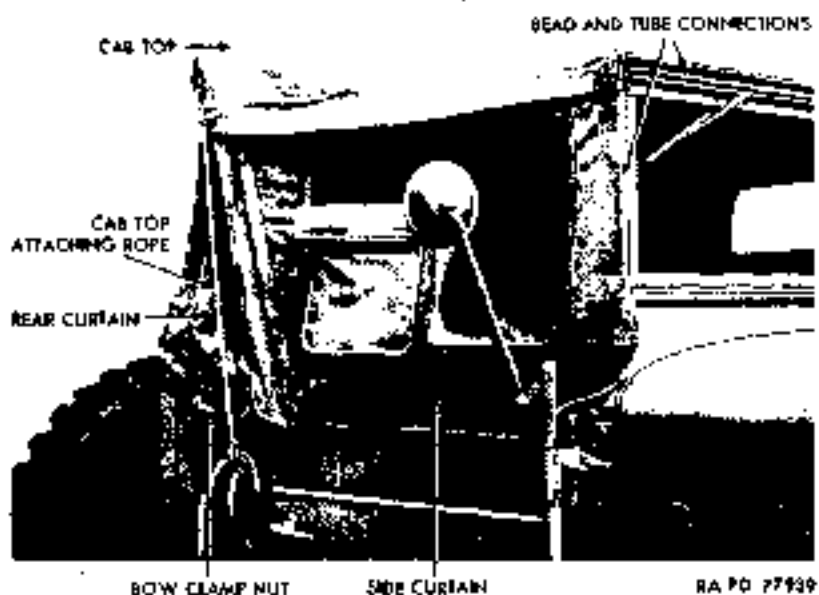

Figure 91 — Exterior of Installed Cab Top
a. **Description** (figs. 91 and 92). The cab top includes: a fabric top attached between windshield frame and top bow, fabric rear curtain attached between top bow and rear top of cab, and a fabric side curtain with window attached between windshield frame and rear curtain on each side. The top and sides are attached to windshield frame through a bead and tube connections. Ropes secure top and rear curtain to top bow and rear of cab.
c. **Removal** (figs. 91 and 92). Untie cab top attaching rope. Disengage top from the grommet which secures it to windshield frame on each side, and pull top over windshield assembly. Slide bead at front of top from tube at top of windshield, and remove top. Disengage side curtains from the four grommets which secure them to windshield frame, cowl, and door on each side. Slide curtain support rod from bracket on door, and pull rod from curtain. Slide bead at front edge of curtain from tube at side of windshield frame, and remove curtain. Disengage rear curtain from grommet which secures it to cab on each side. Loosen and unhook rope which secures curtain to rear top of cab. Loosen clamp nut which secures top bow to cab on each side. Remove cotter pin and flat washer at bottom of top bow on each side, and slide bow from bracket. Remove rear curtain and top bow as a unit.
d. **Installation** (figs. 91 and 92). Position top bow with rear curtain attached in bracket on cab. Install flat washer and cotter pin which hold bow in bracket. Tighten clamp nuts. Engage rope threaded through grommets in curtain to hooks on cab, and tighten and secure rope. Fasten curtain to grommet on each side of cab. Slide bead at front of side curtain through tube on windshield frame, slide support rod in curtain, and position rod end in door bracket. Fasten curtain to the four grommets which secure it to door, cowl, and windshield frame. Slide bead at front of top through tube on windshield frame. Fasten grommet on each side to windshield frame, and pull top over top bow. Pull rope tight, and tie to grab handle on each side.